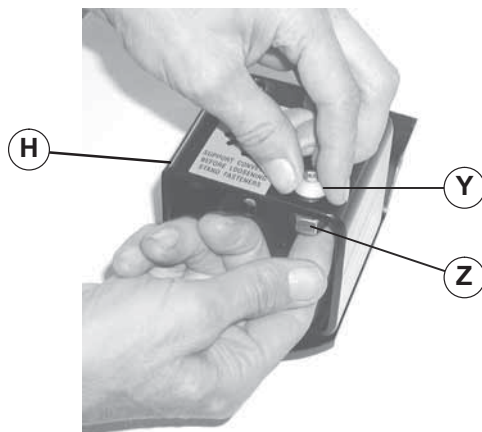

Figure 9
- Install two button head screws (Figure 9, item Y) and hex nuts (Z) on leg support (H). Do not tighten screws.